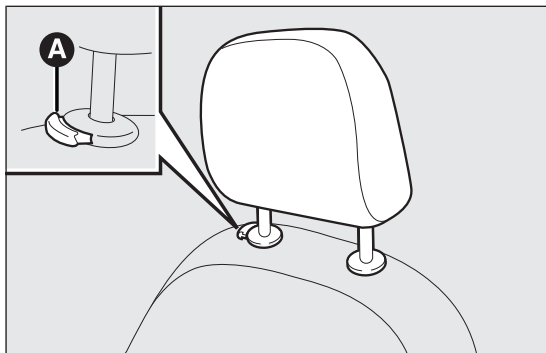

fig. 22
These are height-adjustable and lock into place automatically fig. 22.
- ☐ Downward adjustment: press button A fig. 22 and lower the headrest.